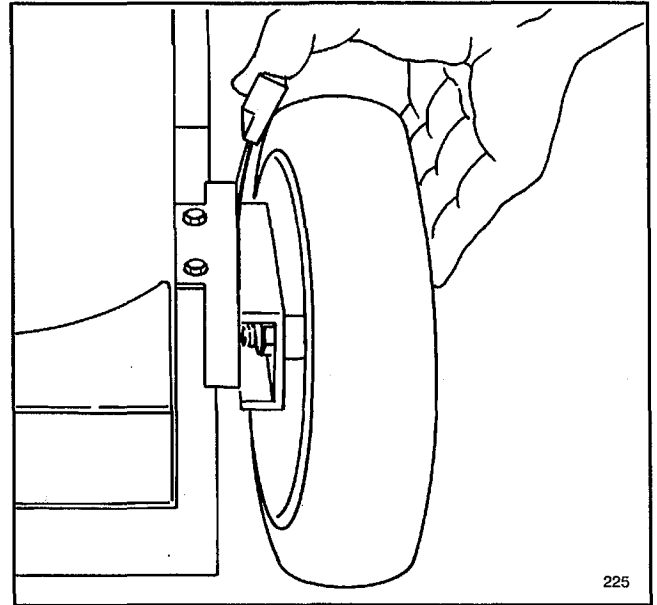

Figure 18
2. For easier adjustment, lift housing up so wheel is off ground. **Do not place hands under deck to lift housing.** Squeeze adjusting lever toward wheel (Fig. 18) and move it to the desired setting. Ensure pin on adjusting lever engages notch in mower housing wear plate. Adjust all wheels to the same setting.